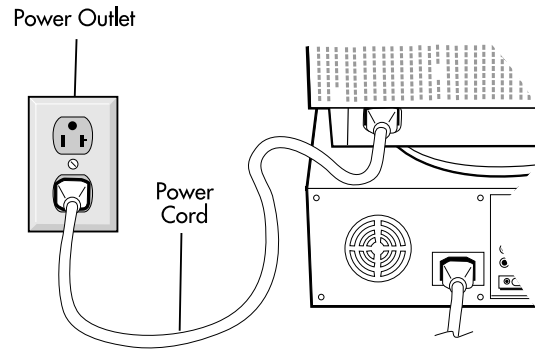

Figure C.1
5. Connect one end of the power cord to the MultiSync FP monitor and the other end to the power outlet (**Figure C.1**).